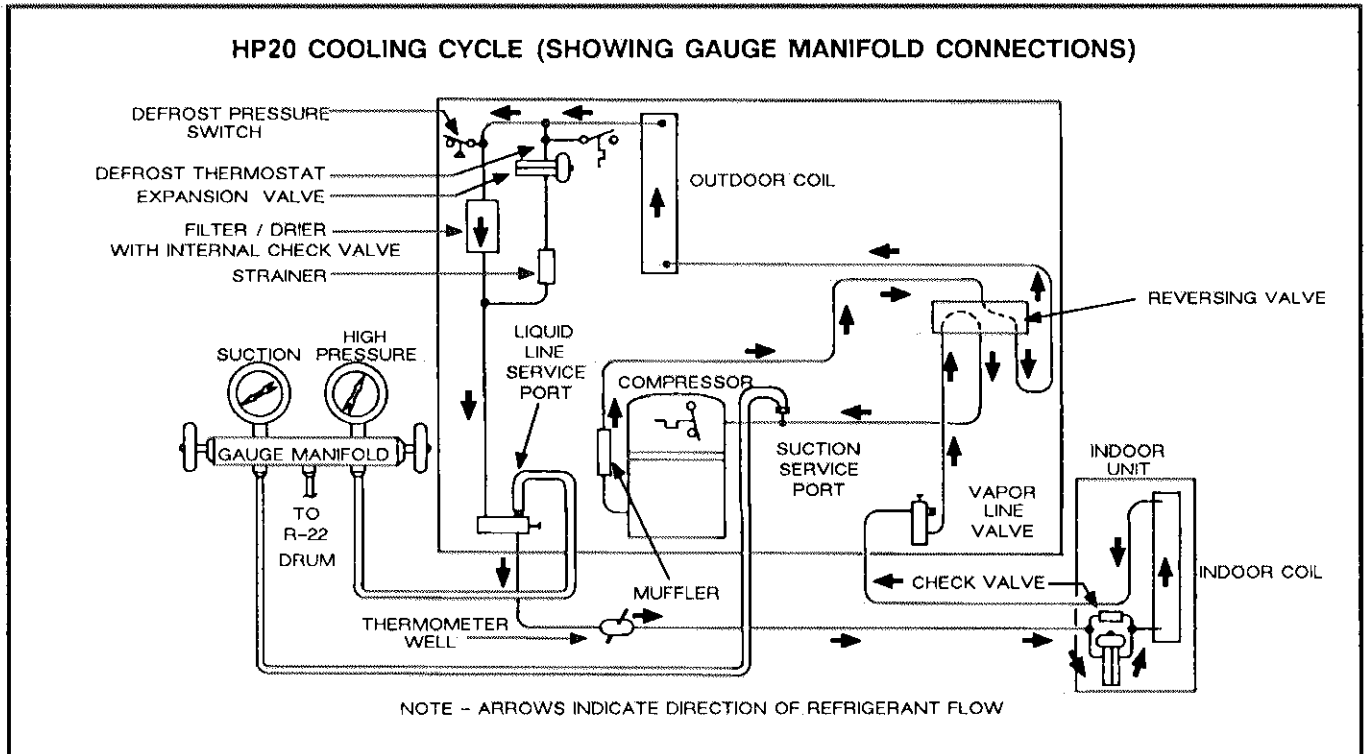

FIGURE 6
- 1- Attach gauge manifold as shown in figure 6. Connect vacuum pump (with vacuum gauge) to center port of gauge manifold. With both manifold service valves open, start pump and evacuate indoor coil and refrigerant lines.
- 2- Connect gauge manifold as shown in figure 6. Connect an upright R-22 drum to center port of gauge manifold.
The filter drier is equipped with an internal check valve for correct refrigerant flow (See figure 6). If replacement is necessary, order another of like design and capacity. A strainer in the liquid line gives additional protection.